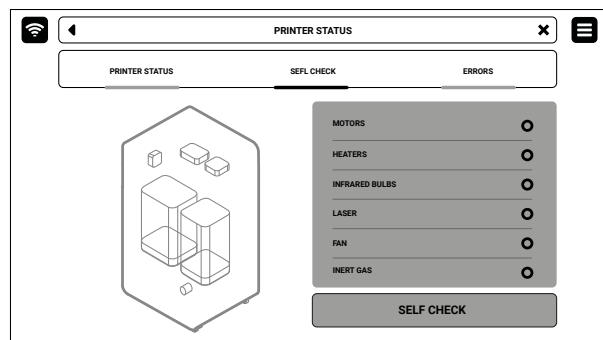

Fig. 12.3 The **SELF CHECK** screen
- SELF CHECK** tab, in which it is possible to check that all components in the printer are working correctly (motors, laser, heaters, etc. Fig. 12.3).